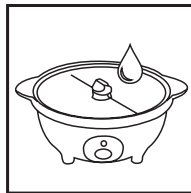

Fig. 1
2. Place vegetable oil onto the Cooking Surface according to chart on pg. 7. **(Fig. 1)**